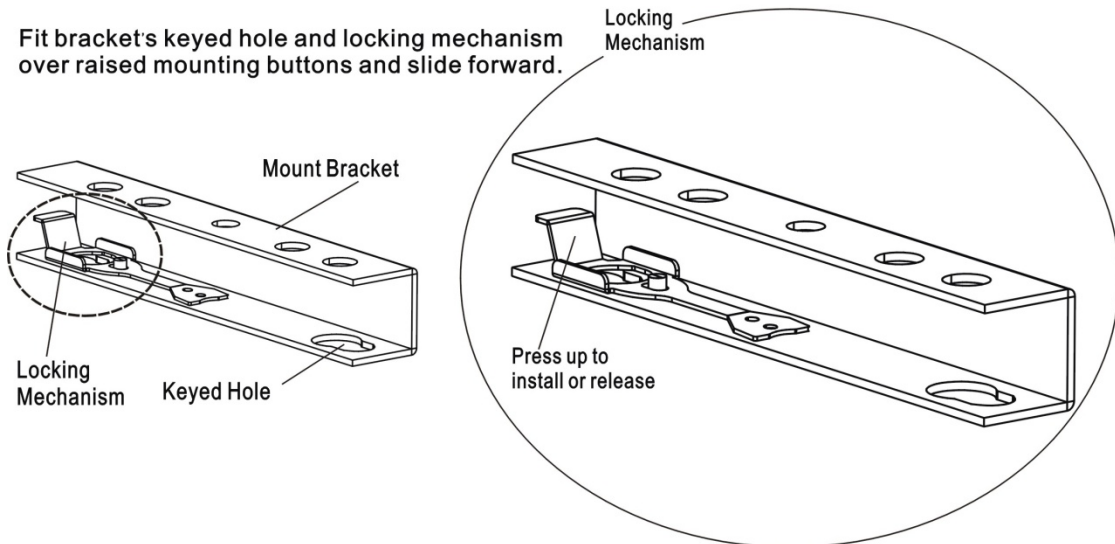

Figure A-6: Installing Brackets on Luminaire Enclosure
Step 2. Determine required configuration of bracket installation. Brackets may be installed in many different orientations as shown in Figure A-6.